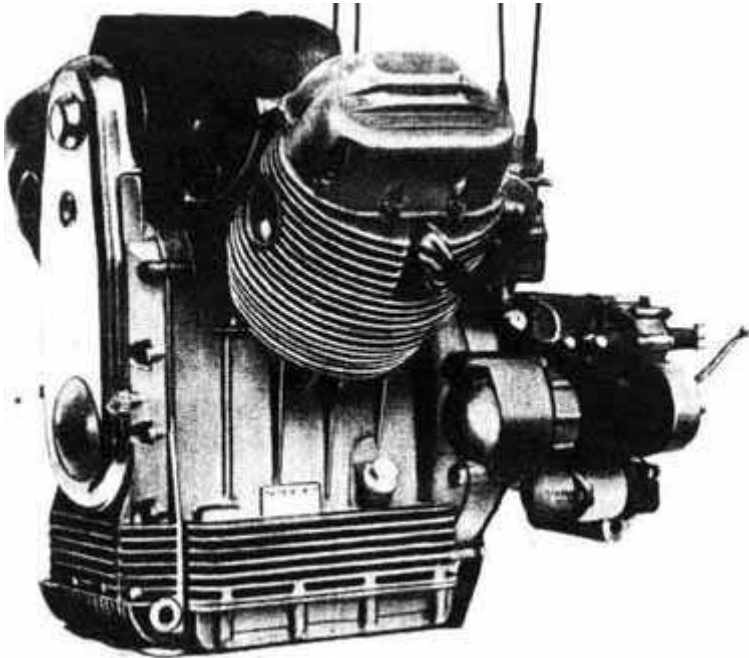

Fig. 5
**MAIN FEATURES** - Engine (see fig. 5/1) [return to index]